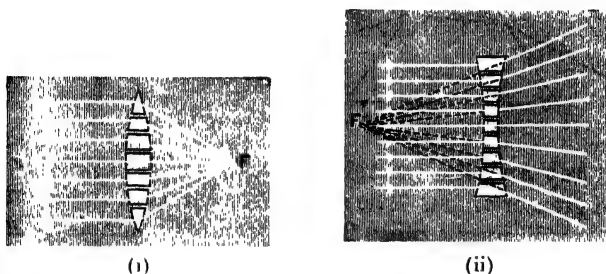

FIG. 91. PARALLEL RAYS FALLING ON (i) A CONVERGING LENS.
angles of the prisms increase towards the edges (Fig. 91 (i)). Thus, if a number of rays are refracted towards the bases of the prisms, those at the edges are deviated most and bend inwards, while a ray at the centre meets a parallel-sided piece of glass normally and goes straight on. Thus all the rays converge and pass through a certain point. If the incident rays are *parallel* this point is called the **principal focus** (F) of the lens (Fig. 91); its distance from the centre of the lens is the **focal length**.
A **diverging** (a concave) lens is thinner in the middle, and the prisms are arranged with their bases outwards (Fig. 91 (ii)). Thus rays of light are deviated outwards, and diverge after passing through the lens. In this case, parallel incident rays only *appear* to have passed through the point that is the focus of the lens (Fig. 91 (ii)), and like the image in a plane mirror, the point is virtual or unreal, because rays do not actually pass through it.